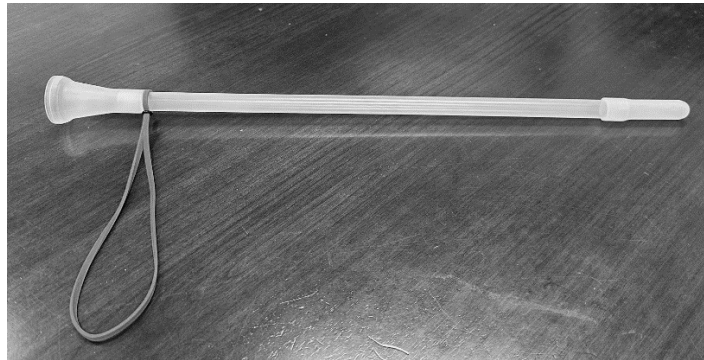

Fig 7.5
4. Use of PatCom Scope Mate is strongly recommended to avoid coiling and any possible damage as well as to prevent cross contamination while transporting the endoscope to the cleaning and disinfection site. (see Fig 7.5)